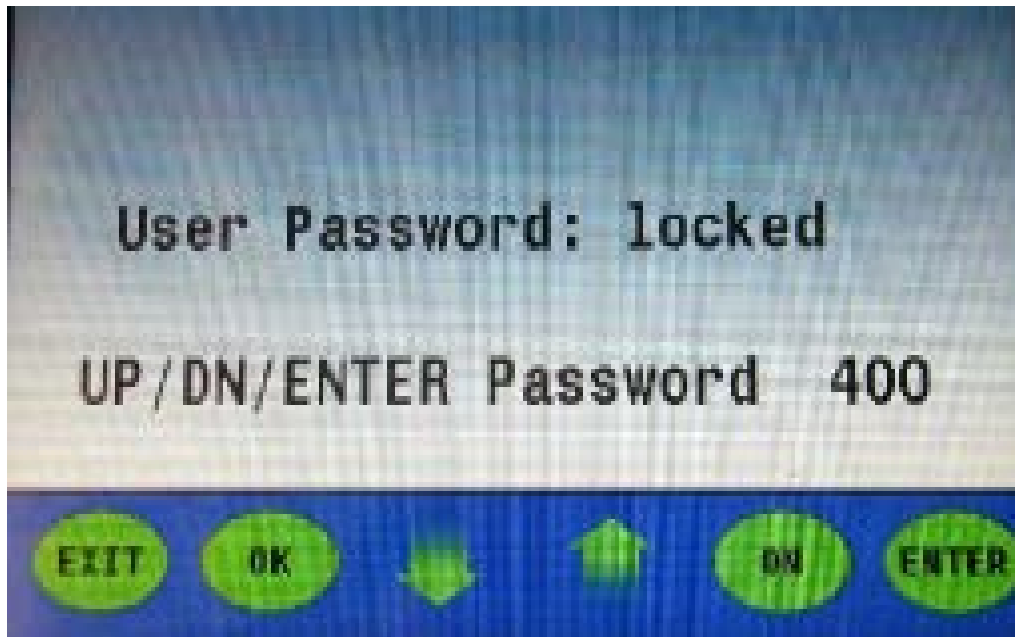

Figure 11
2. Using the **up arrow**, press to assign the first number in the password sequence (to decrease this number, use the **down arrow** (**figure 11**)).